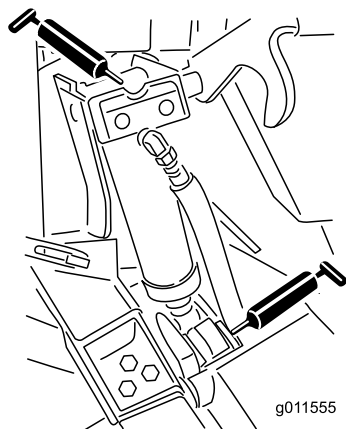

Figure 70
- 4 lift-cylinder bushings (Figure 70)